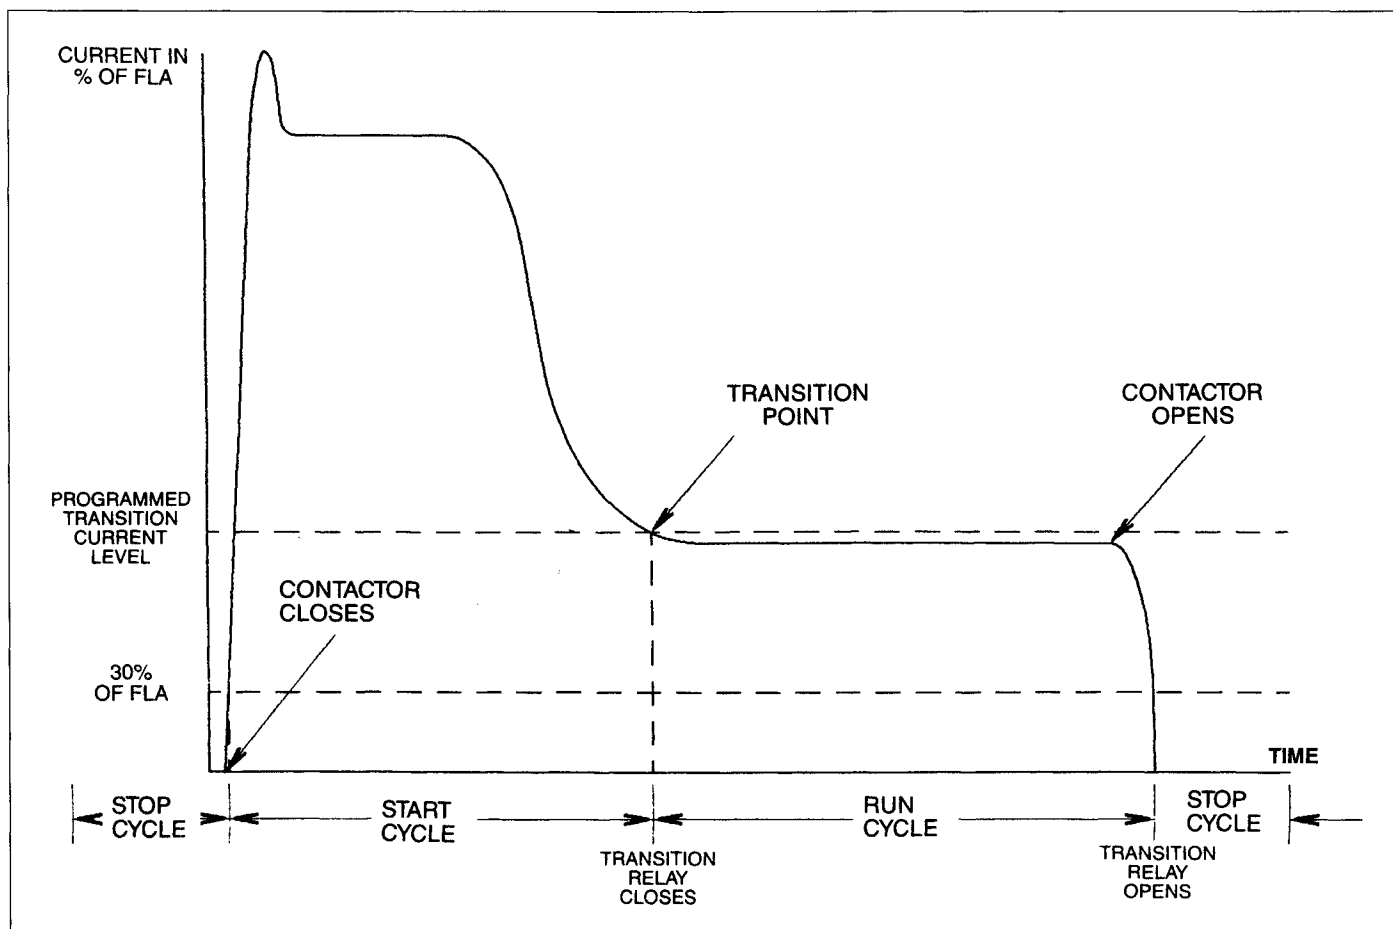

Fig. 7.6 Motor Start and Run Cycles
7.2.1 Start Cycle — The relationship between the IQ-1000 II and the motor current level during a start cycle is shown in Figure 7.6.
7.2.2 Run Cycle — Once the transition occurs, the motor's run cycle is initiated and the message "RUN" is displayed. The run cycle continues until the monitored motor current level falls below 5% of its full-load amperes setpoint (item 42) at which point a stop is declared and the IQ-1000 II returns to the "READY -- 3" or stop mode. (See Figure 7.6.)